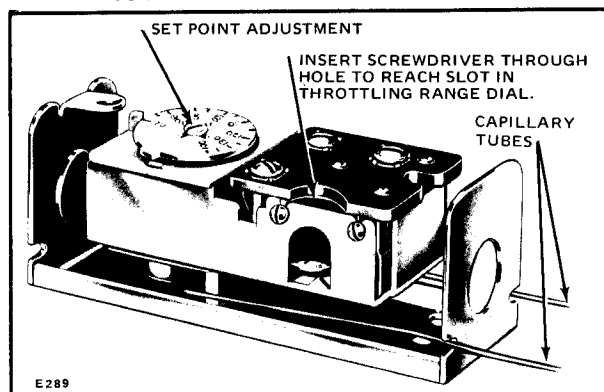

FIG. 18—INTERNAL VIEW OF T991B, SHOWING THROTTLING RANGE ADJUSTMENT DIAL.
6. If the resistance difference found in step 5 exceeds 10 ohms, use the calibration wrench. (See ACCESSORIES under SPECIFICATIONS) to make the calibration adjustment (Fig. 18).
Find the difference between the THEORETICAL SET POINT and the actual operating point—note this reading by observing the dial markings and the indicator. For example, the THEORETICAL SET POINT is 70 F [21 C], but the actual operating point is 50 F [10 C] as indicated by the dial. This means that the control is off calibration by 20 F [11.1 C] degrees (too low). Insert the calibration wrench into the slots of the dial (see Fig. 18). Rotate the dial and the wrench until the tabs of the wrench line up with the slots in the brass calibration nut under the dial. Note this reading and turn both the calibration nut and the dial up (counterclockwise) 20 F [11.1 C]. Recheck the operating point to determine if calibration is correct. If not, repeat the preceding procedure.